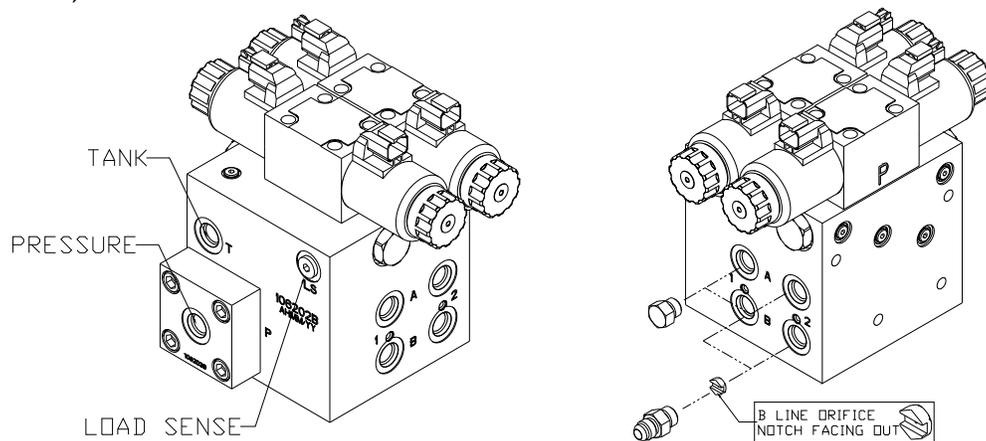

Figure 31: Single Acting NORAC Valve Block Details
3. Insert the two orifices (F01) into the “B” ports with the notch facing out. (**Figure 31**)